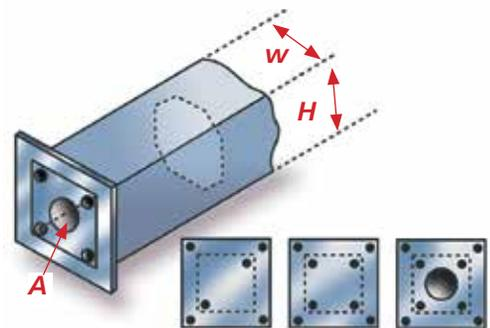

Figure 6
- If  $H+W =$  less than  $8''$ , leave it open *See Figure 6 on page 10.*